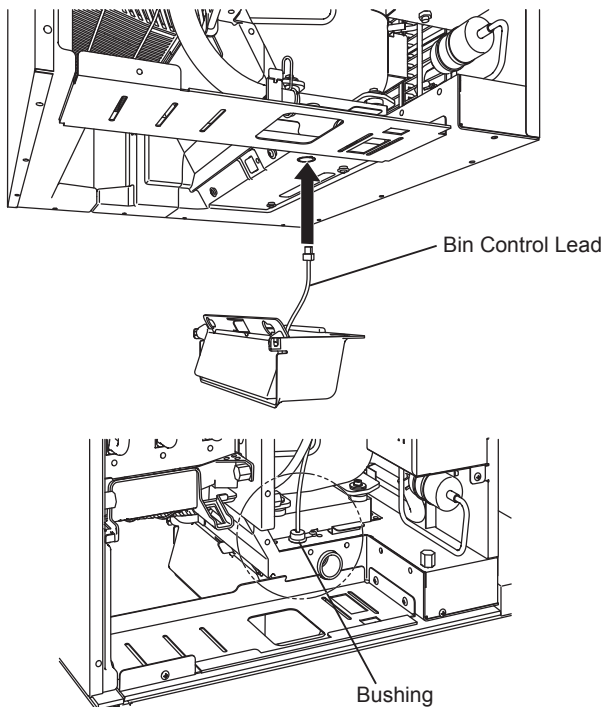

Fig. 4
6) Route the bin control lead through the hole in the base, then into the bushing provided. See Fig. 4.